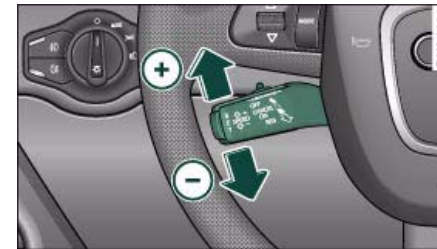

Fig. 140 Control lever for: Setting a new speed
- **Briefly** move the control lever up towards  $\oplus$   $\Rightarrow$  fig. 140. The speed will be incremented by one graduation on the scale in the speedometer.